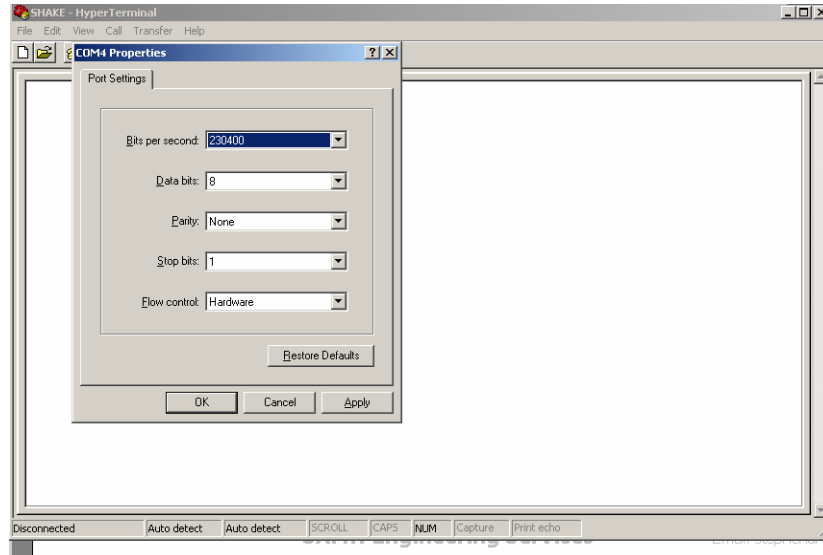

Figure 11
- 14) In the "port settings" dialog select 230400 in the "Bits per Second" drop down box see Figure 11